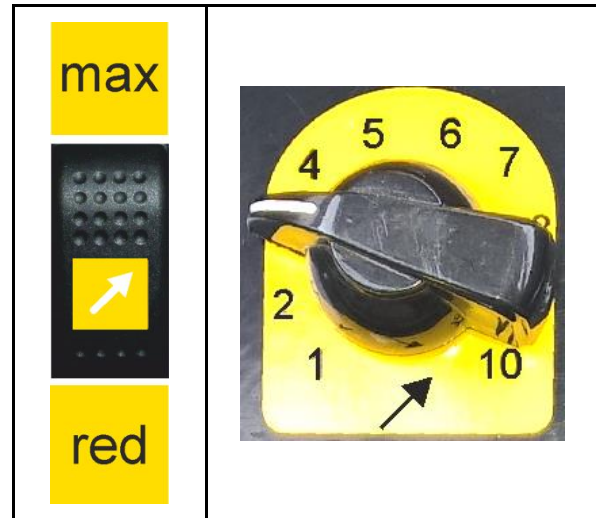

Fig. 83
8. Reduce the drive speed of the elevator conveyor by means of the switch and the "Elevator conveyor speed" control dial (Fig. 83) if necessary, e.g. if silage is thrown over the mixing container.